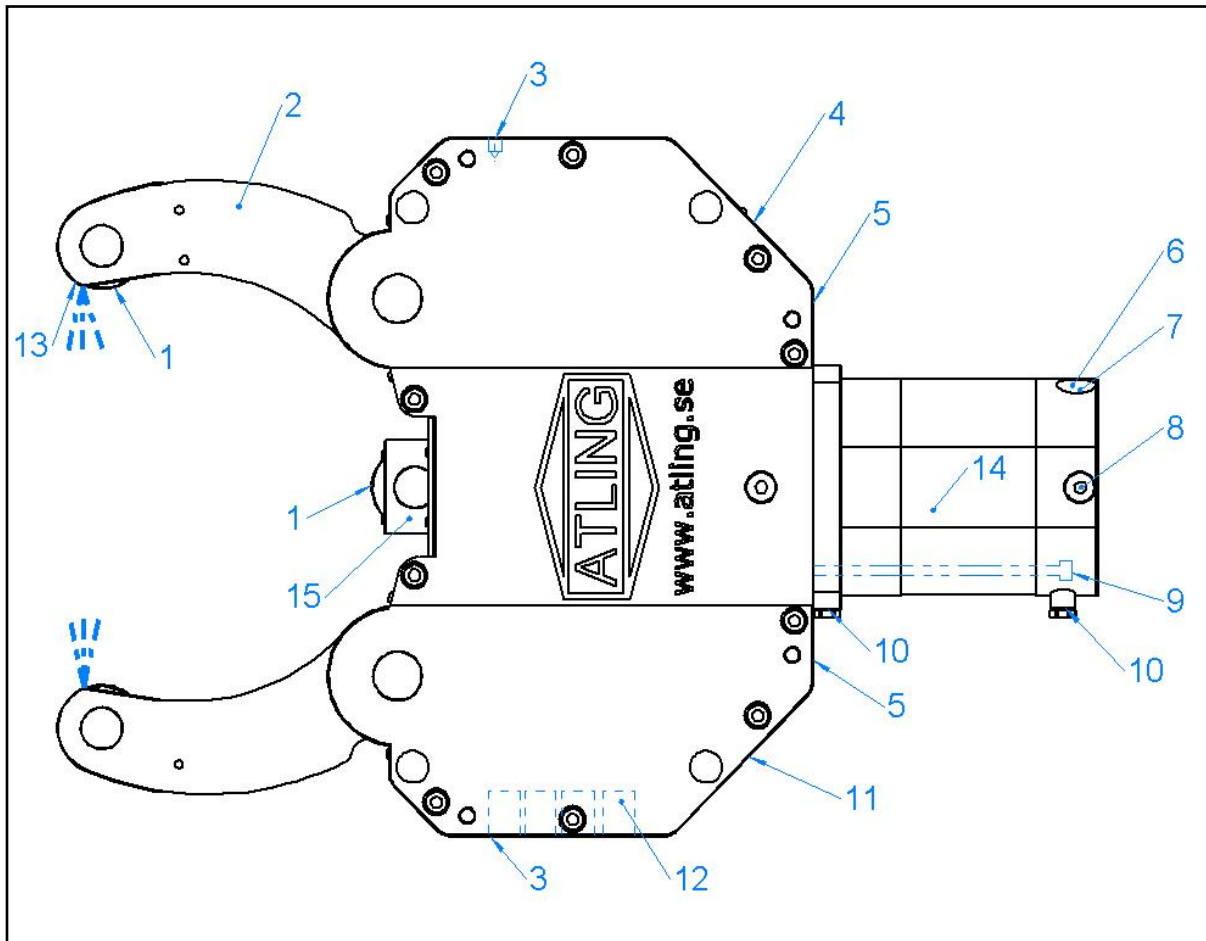

Figure 1. Steady rest with rear mounted cylinder – Axe / ASE-series
- Using the travelling steady rest, workpiece must not have any sharp shoulders or recesses. Safety valve must also be disconnected (see Figure 1 position 8).
The self-centering steady rest demands a turned or grinded workpiece surface which is aligned to the centre line of the machine. Three rollers (see Figure 1) spaced at approx. 120 degrees centralize the workpiece by controlled cam levers. This gives an accurate centering and support to the workpiece within the whole clamping range. To avoid damage to the steady rest and on the rollers no unmachined surface should be used.
Additional pressure of about 0,5 bar shall be supplied to the housing to avoid dirt and chips to enter into the housing. To be connected to the air/drainage connection (see Figure 1 position 5). The use of this feature is very important as it extends the lifetime of the steady rest parts considerably.
To all AX-series models it is possible to connect the steady rest to the coolant system to efficiently remove chips by the rollers and create a curtain that prevents them from getting in between rollers and the workpiece which can cause damage to both. The connection for the coolant is in the top cover of the steady (see Figure 1) and is a G1/4" thread (G1/8" AX1E). Recommended pressure for the coolant: 10-20 bar. Maximum pressure: 70 bar.
All steady rest in the Atling AXE / ASE-series comes prepared for use of two inductive proximity switches. On the cylinder housing there are two M12x1 threaded holes (AX1E=M8x1) (see Figure 1 position 10). It is possible to use both or just one, depending on how many positions needs to be detected. In case of use of only one, either the rear or the front slot can be used. The measured positions are defined by the nuts positions on the stroke control pin (see Figure 1). Compared to our previous stroke control system this one is completely sealed which extends the lifetime of the proximity switches.